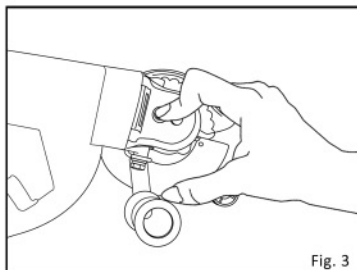

Fig. 3
1. Push the spindle lock to secure the blade. (Fig. 3)